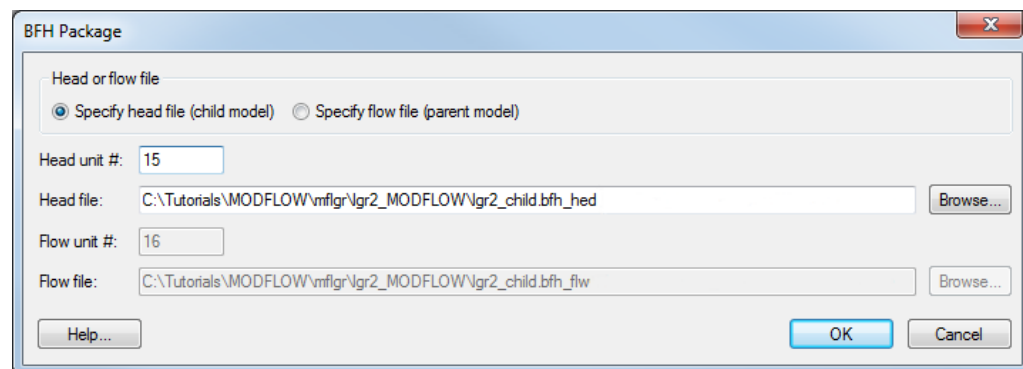

Figure 14 BFH Package dialog
6. Under the “child” grid, right-click on “MODFLOW” and select *Optional Packages / BFH – Boundary Flow and Head* to open the *BFH Package* dialog (Figure 14).